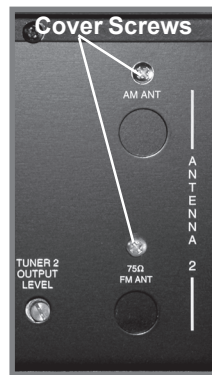

Figure 27
4. Remove the Inside Connector Cover which is secured with two Phillips Head Screws and is located on the Rear Panel. Refer to figures 27 and 28.